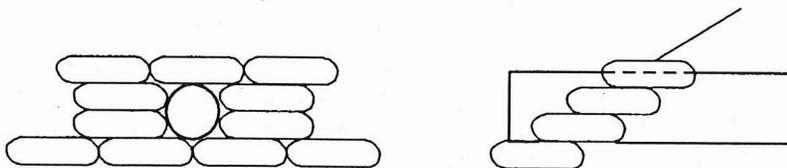

Figure 4 Protection of Pipe with Sacked Riprap
(3) The erosion at the ends of drainage pipe can be prevented by using sacked sand-cement riprap as shown in Figure 4.